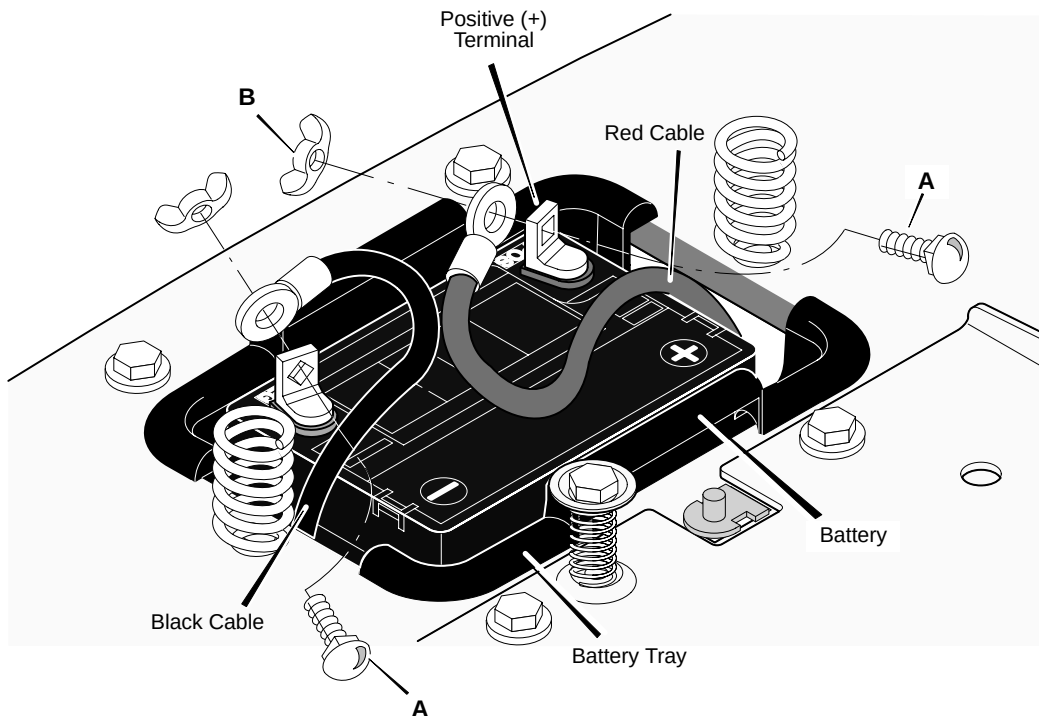

Figure 6
1. Check the top of the battery for the location of the **battery date** (Figure 6).
2. Fasten the **red cable** to the **positive (+)** terminal with the fasteners as shown (Figure 6).